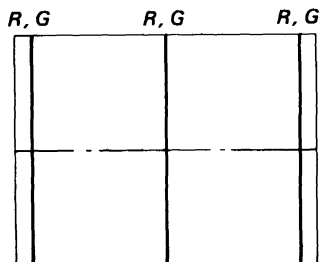

Fig. 3-66
- (15) Adjust RV5519 (H SUB BOW (R)) finely so that the red vertical lines coincide with the green horizontal lines as shown in Fig. 3-66.
- (16) When the mis-registration appears on the screen, perform the necessary adjustment finely.